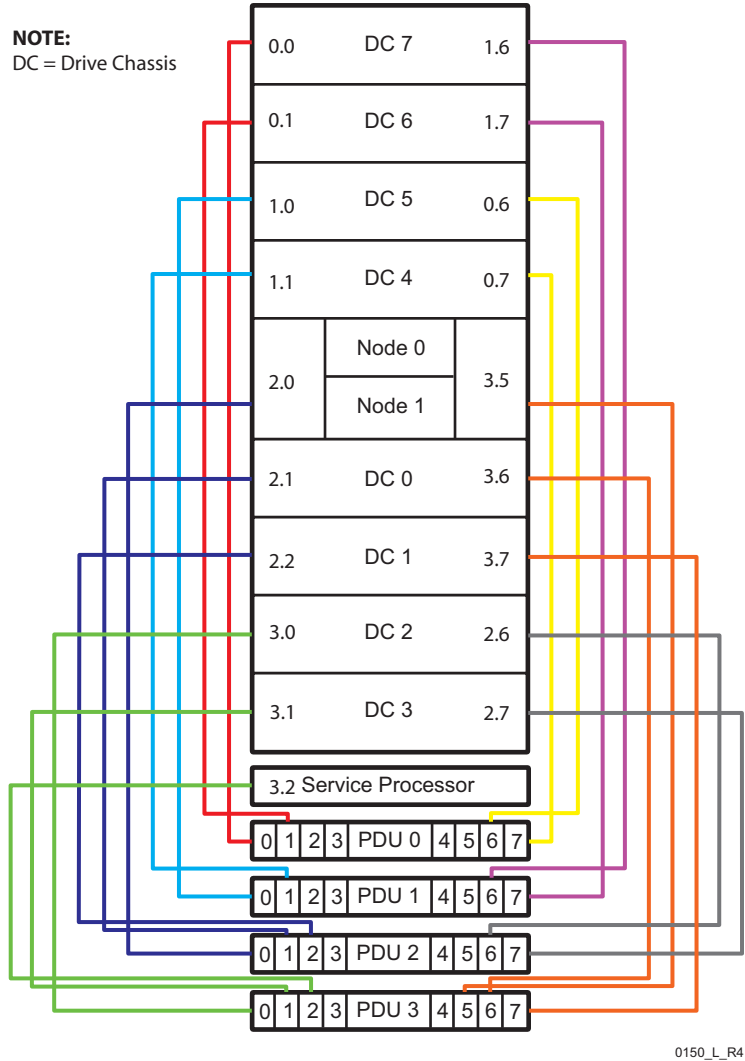

Figure 21-1. A Valid Redundant Power Configuration Diagram (2M)
- Figure 21-1 illustrates a valid redundant power configuration for a storage server in a 2M (40U) cabinet.